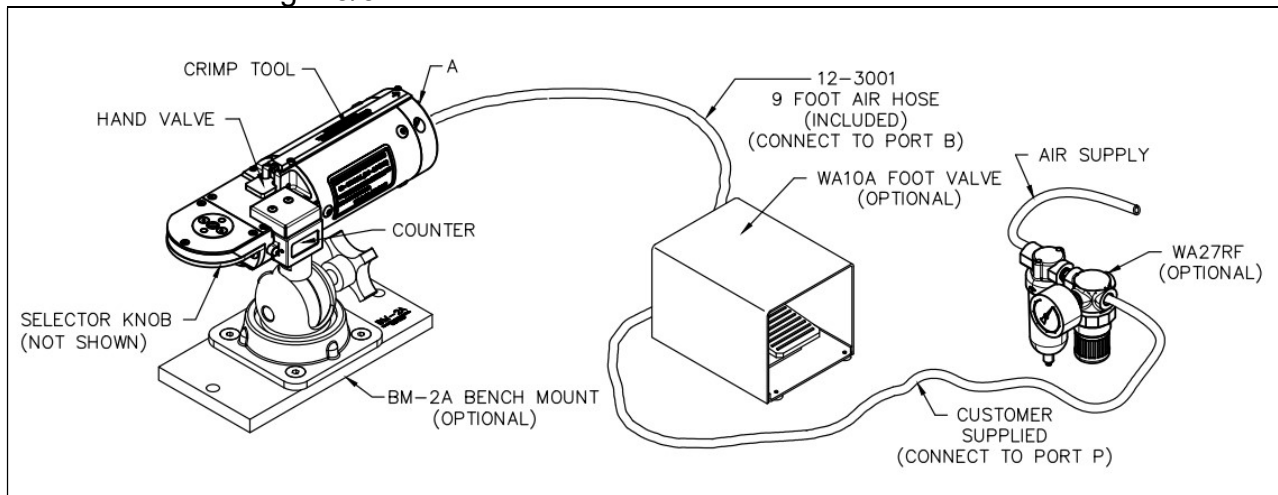

Figure 1
- 1.5.1 Attach the foot valve between the air supply, and the tool air inlet. Depress the hand valve, and lock it in the down position with set screw "A" (See Figure 1) using a 3/32 inch hex Allen™ wrench.